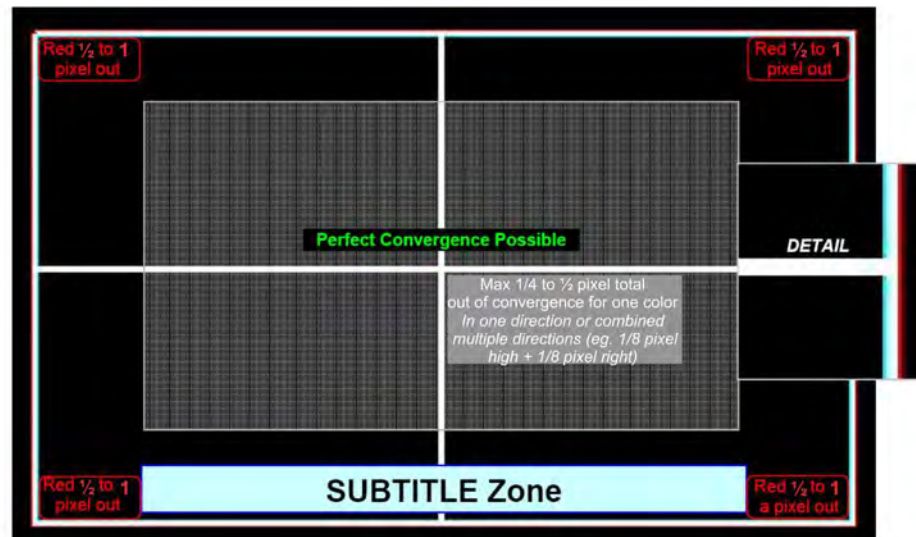

Figure 3-13 Best Possible Convergence
- a. This means that the best possible convergence would be described as follows: The center area highlighted in **Figure 3-13** should be perfectly aligned showing solid white pixels, as shown in the simplified diagram. (**Figure 3-13**)
- b. The Red should be evenly 1/4 to 1/2 a pixel out all the way around the outer area not highlighted in **Figure 3-13**, showing cyan (green+blue) towards the center of the screen, as shown in the simplified diagram. (**Figure 3-13**)